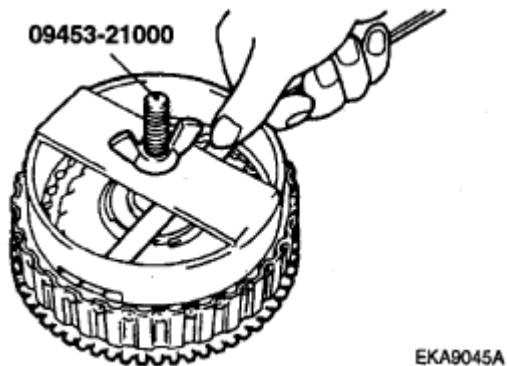

Fig. 165: Checking Clearance Between Snap Ring & Reaction Plate
11. Install special tool 09453-21000 as shown in **Fig. 165**, then check the clearance between the snap ring and the reaction plate using a feeler gauge.